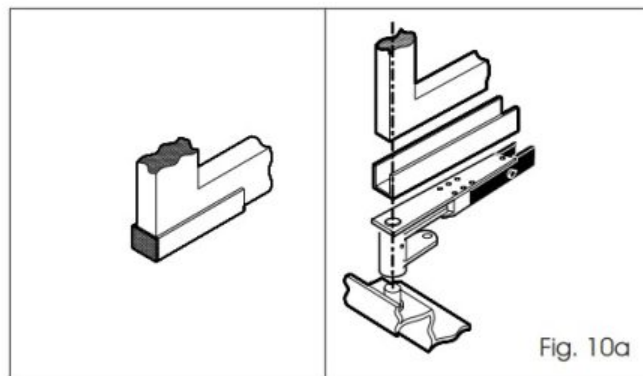

Fig. 10a
- Determine the correct location of the leaf on the “U” profile with reference to the axis of rotation (Fig. 10a and 10b);
- Close the “U” profile on the post side with a small plate, as shown in Figs. 10a and 10b.